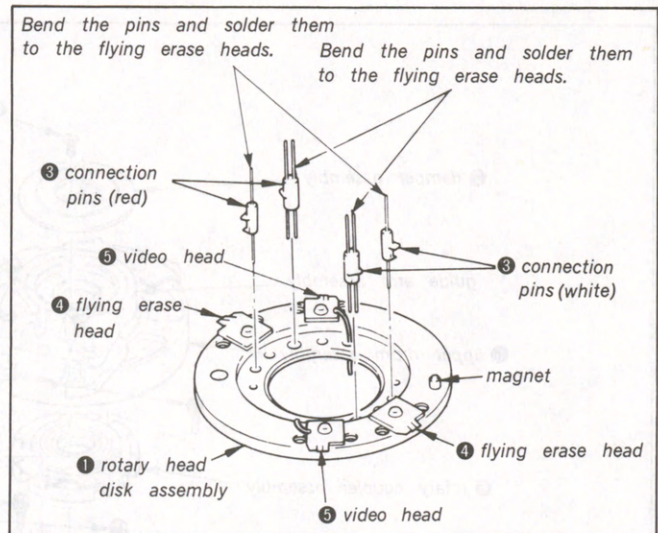

Fig. 7-10. How to attach the rotary head disk assembly (2).
- 2) Attach the four connection pins ③ to the rotary head disk assembly ① (Fig. 7-10).
- 3) Bend the connection pins ③ and solder them to the flying erase heads ④ and the video heads ⑤ (Fig. 7-10).